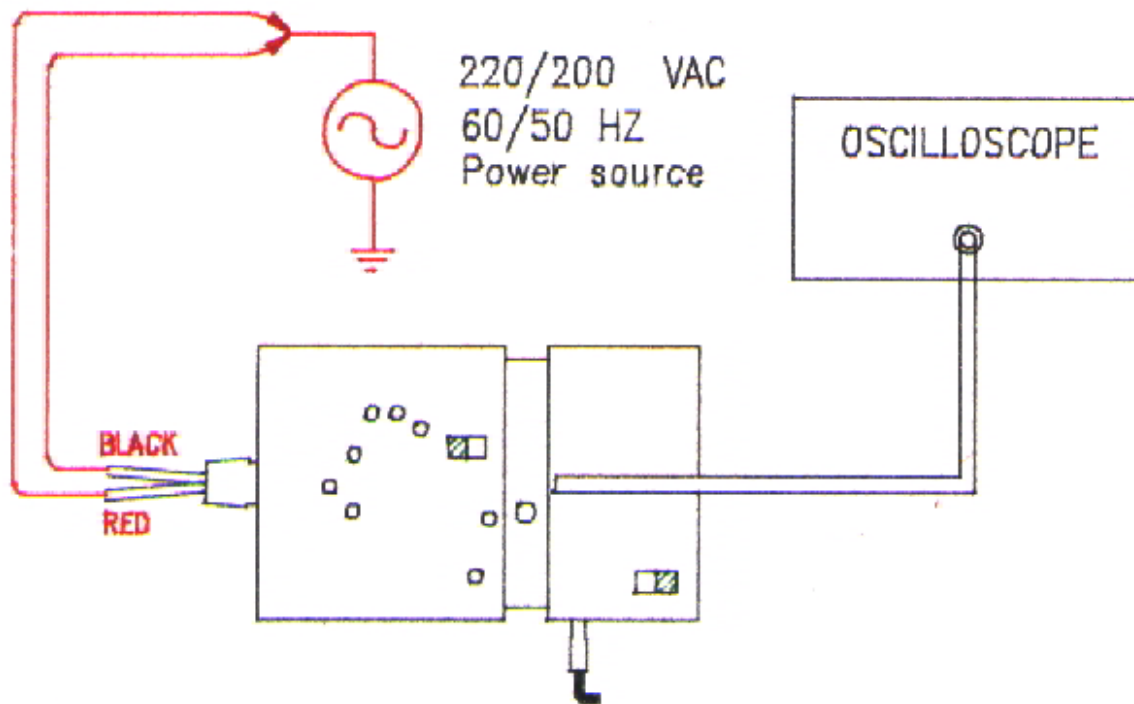

Fig. 9
- Referring to Fig. 9, connect output BNC to the oscilloscope which has good grounding.